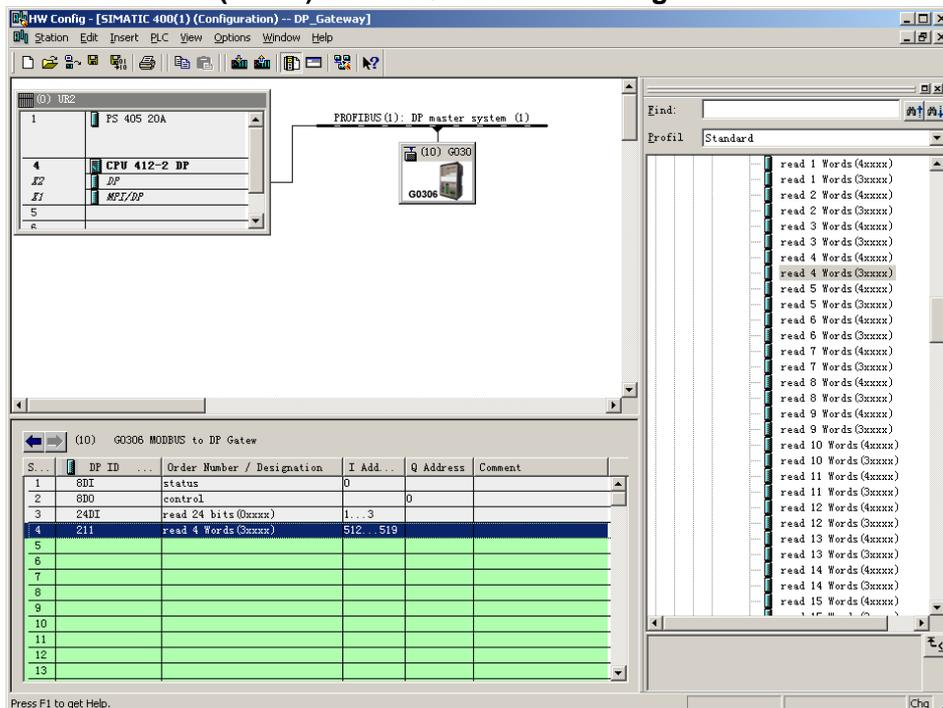

Figure 19 Add“read 4 Words(3xxxx)”Module
**a) Add “read 4 Words(3xxxx)” module, as shown in Figure 19:**